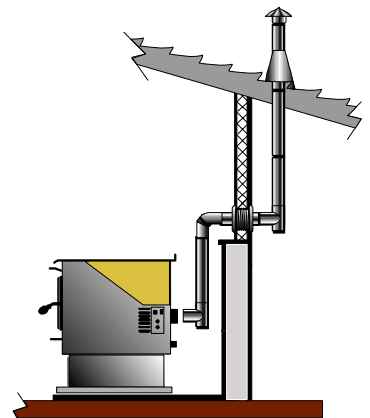

Figure 22
- 🔥 **HORIZONTAL, OUT THE WALL, THEN VERTICAL THROUGH THE EVES AND ROOF**, terminating with a rain cap. Figure 22.